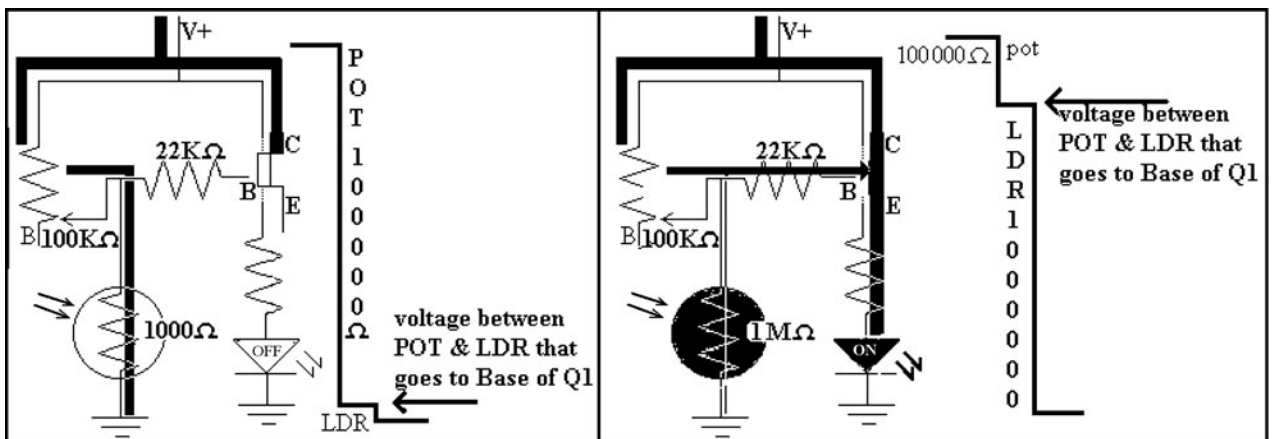

Figure L12-7
- Set the pot so the resistance between legs A and C, the center leg, is close to 100 kilo-ohms. Figure L12-7 shows how the voltage is responding to the changing resistance of the